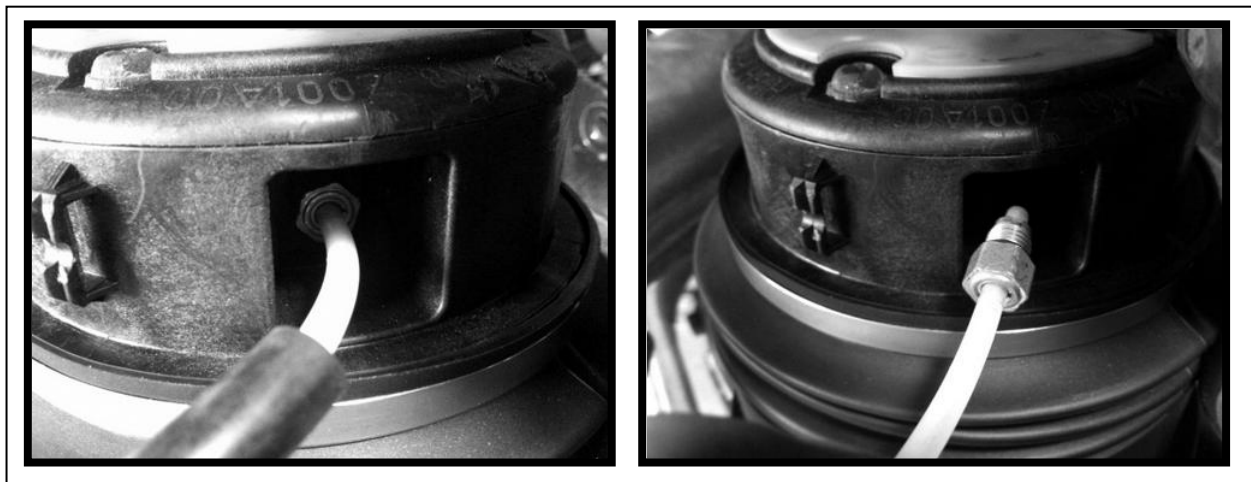

FIGURE 10-33
36.0 WITH THE AIR SPRING REMOVED FROM THE VEHICLE, REMOVE THE AIR LINE FROM AIR SPRING. (FIGURE 10-33)